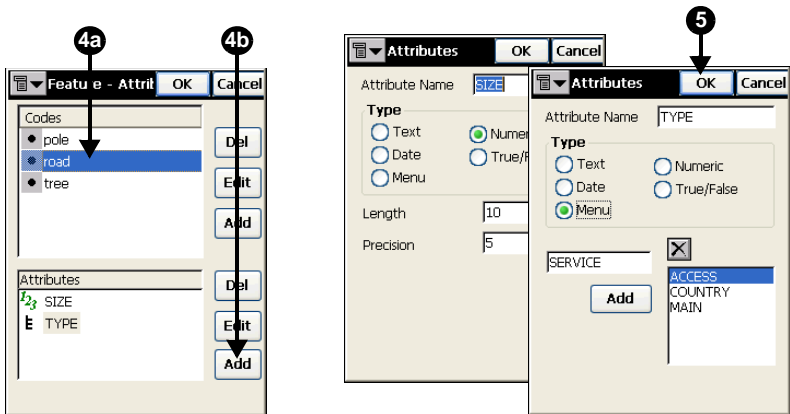

Figure 2-17. Add an Attribute to a Code
5. On the *Attributes* screen, enter a name for the attribute and select its type. Enter other parameters as needed and press **OK** (Figure 2-17 on page 2-15).